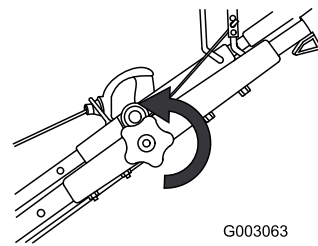

Figure 44
2. Loosen the upper handle knob (Figure 44).